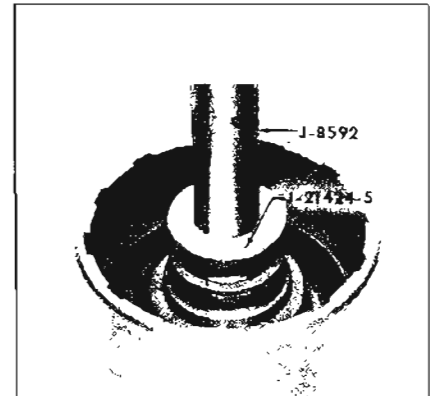

Figure 5-224
12. Check forward clutch drum bushing for nicks, severe scoring or wear. If bushing replacement is necessary proceed as follows: Using tool J-21424-5, press damaged bushing from forward clutch drum. See Figure 5-224.